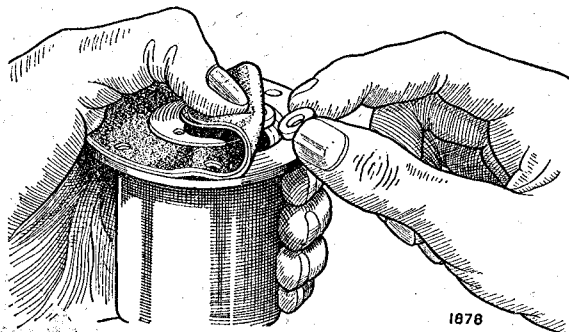

Fig. 6. Inserting the diaphragm centralizing rollers
10. Fit the 11 brass centralizing rollers (Fig. 6) by turning back the diaphragm edge and dropping the rollers into the coil recess. The pump should be held in the left hand, rocker end downwards, to prevent the rollers from falling out.